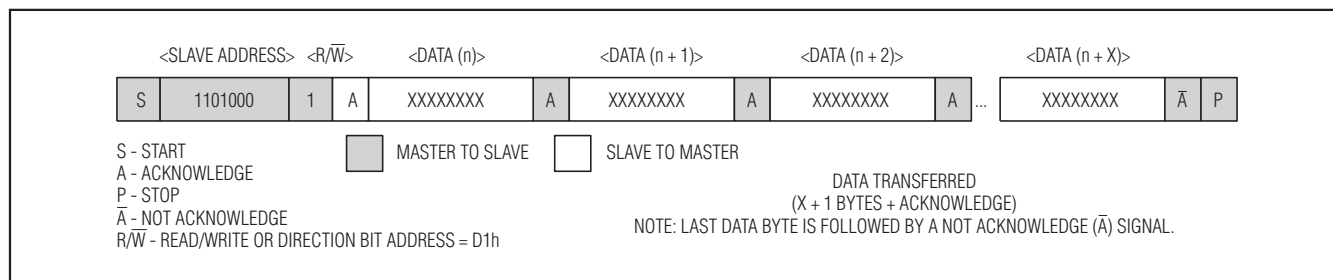

Figure 4. Data Read—RTC Slave Transmitter Mode
2) Slave transmitter mode (DS32B35/DS32C35 read mode): The first byte is received and handled as in the slave receiver mode. However, in this mode, the direction bit indicates that the transfer direction is reversed. The device transmits serial data on SDA while the serial clock is input on SCL. START and STOP conditions are recognized as the beginning and end of a serial transfer (see Figure 4). The slave address byte is the first byte received after the master generates the START condition. The slave address byte contains one of the 7-bit device addresses. The slave address is 1101000 for the RTC. For the DS32B35 FRAM, the first four bits are 1010, and the next three bits select one of eight